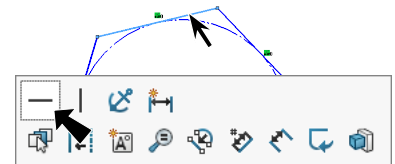

Fig. 3
Step 6. Click **segment** of polygon and click **Make Horizontal**  on the context toolbar, **Fig. 3**.